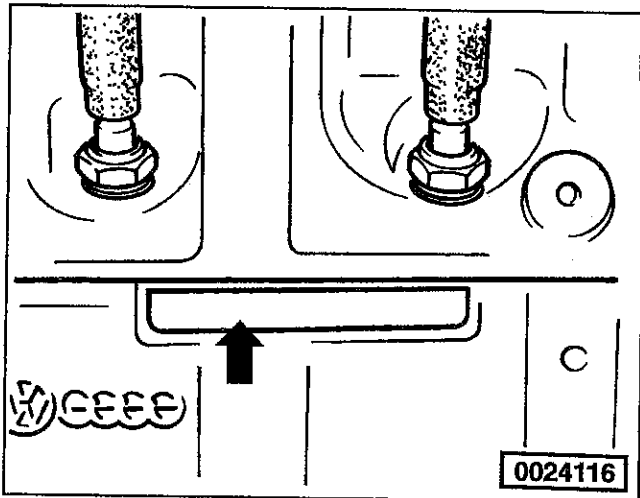

Fig. 2. Engine number location (arrow) on ACC and ABA engines.
- **ACC and ABA engine** code letters and engine number are located on the front of the engine block, below the separation point between engine block and cylinder head. See Fig. 2.